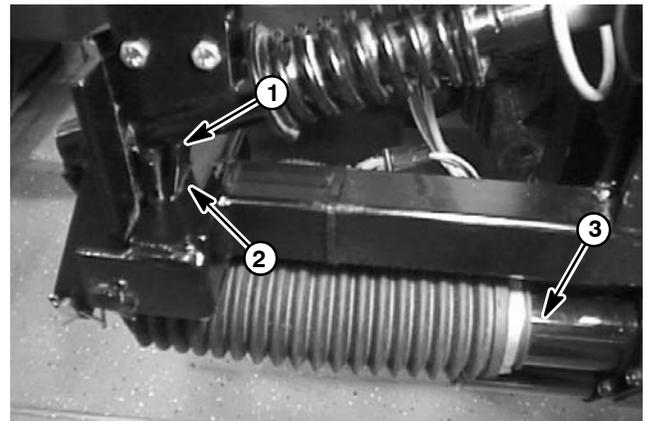

Figure 63
3. With the boom actuator at full extension, the breakaway pivot gusset should just touch the center boom frame slot (Fig. 63).